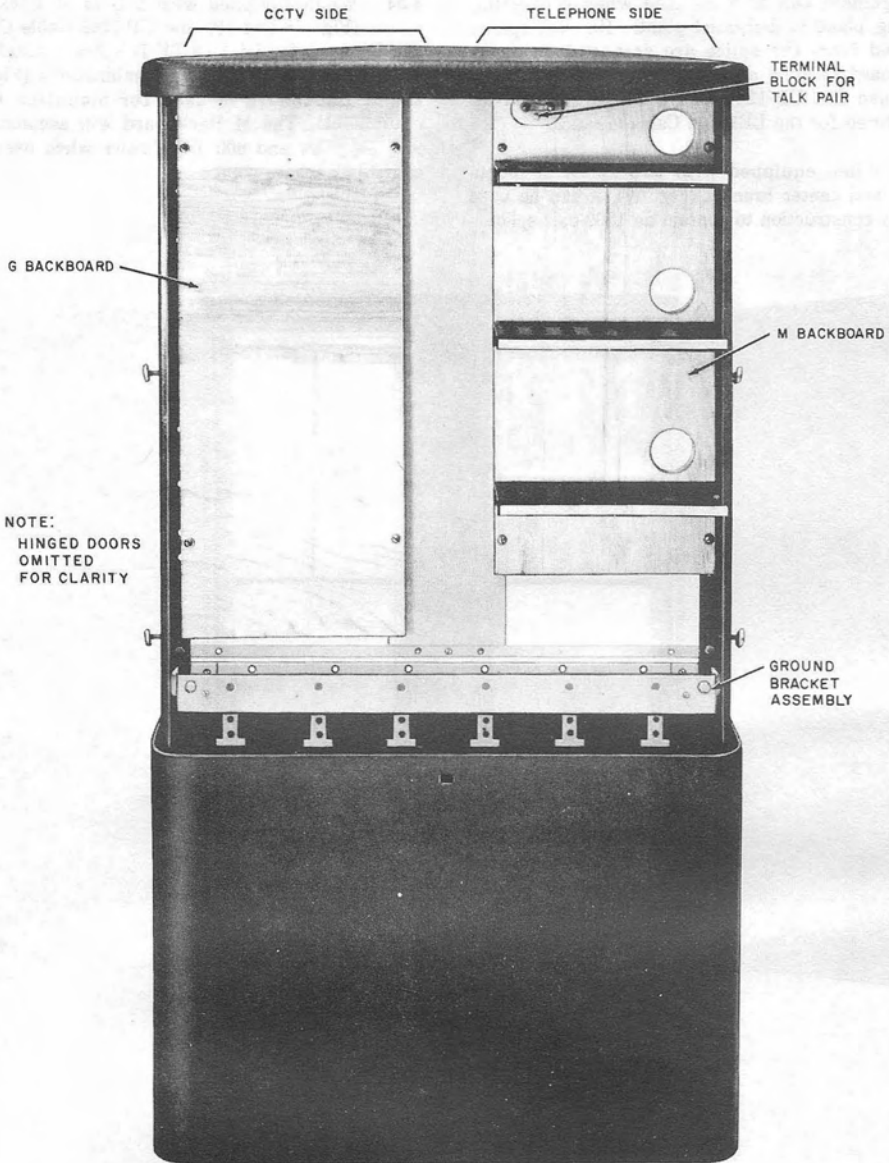

Fig. 18—UP-1248 Cable Closure Equipped with G and M Backboards
removed from the telephone side of the backboard to provide additional space for CCTV equipment. The *G Backboard* may be used in conjunction with the *M Backboard* when mounted adjacent to it as shown in Fig. 18.
4.04 When equipped with a G or K Backboard (Fig. 18 and 19), the UP-1248 Cable Closure can be used for joint CCTV-Telephone installation. With G and M Backboard combinations (Fig. 18), the G Backboard is used for mounting CCTV equipment. The M Backboard will accommodate 900 *IN* pairs and 600 *OUT* pairs when used as a control or access point.